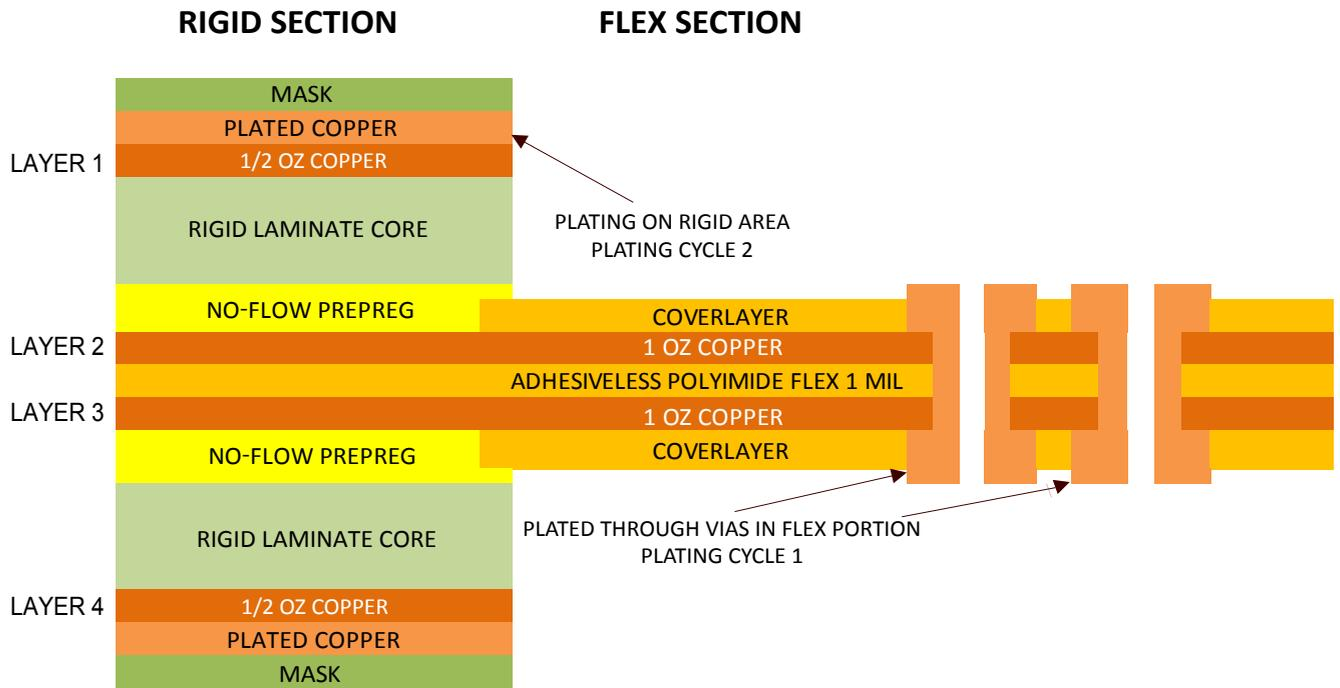

Figure 3: Rigid-flex with PTH in both the flex area and rigid area.
5. Creating holes located only in flexible sections of rigid-flex boards: In rigid-flex circuits, it is generally desirable to limit the drilling of through-holes to those areas where the rigid and flex areas are laminated together. However, owing to the diversity of design needs, there are occasions when holes are needed in the flexible areas. This requirement can have a significant impact on both the processing and the physical performance of the design. Figure 3 illustrates an example of this.